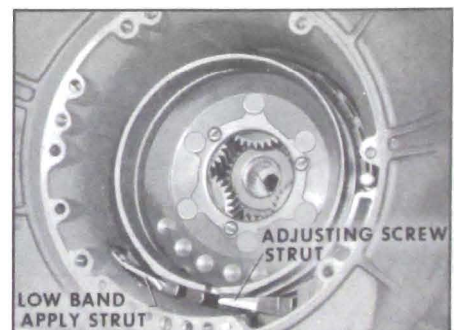

Figure 5-131
1. Remove low band and struts from inside the case. See Figure 5-131.